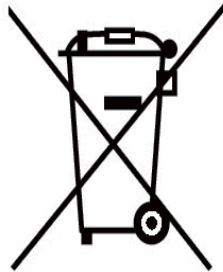

Figure 1
- (1) When shipping products incorporating Mitsubishi Electric device any time later than September 26th, 2008, the symbol mark shown as Figure 1 in section "Information for End-user" is required to be attached on the machinery or on the package. Also, the explanation of the symbol must be added.
- (2) Machinery with battery and maintenance battery produced before the EU Battery Directive are also subjected to the restriction. When shipping those products to EU countries later than September 26th, 2008, follow the instruction explained in (1).